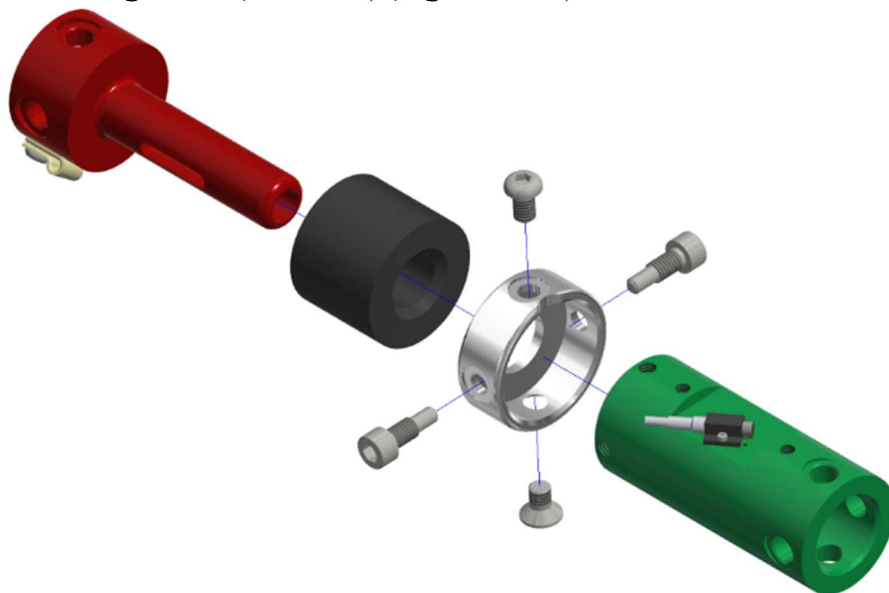

Figure 10-57. Assemble the Tibia Compliant Element Assembly (474-5508) from the Lower Tibia Shaft (474-5540-1,2)
- 10.3.22 Assemble the Tibia Compliant Element Assembly (474-5508) to the Lower Tibia Shaft (474-5540-1,2) using one M6 X 1 X 10 LG. FHCS, one M6 X 1 X 10 LG. BHCS, and two Tibia Plunger Pins (474-5512) (Figure 10-57).